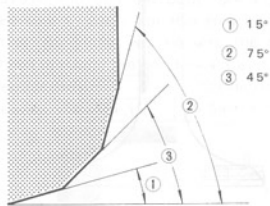

Fig. 4-67 Valve seat angles for exhaust valve seat
1) EXHAUST VALVE SEAT: Use a valve seat cutter to make three cuts in the order illustrated in Fig. 4-67. Three cutters must be used: the first for making the  $15^\circ$  angle, the second for making the  $75^\circ$  angle and the last for making the  $45^\circ$  seat angle. The third cut ③ must be made to produce the desired seat width  $\text{W}$ .